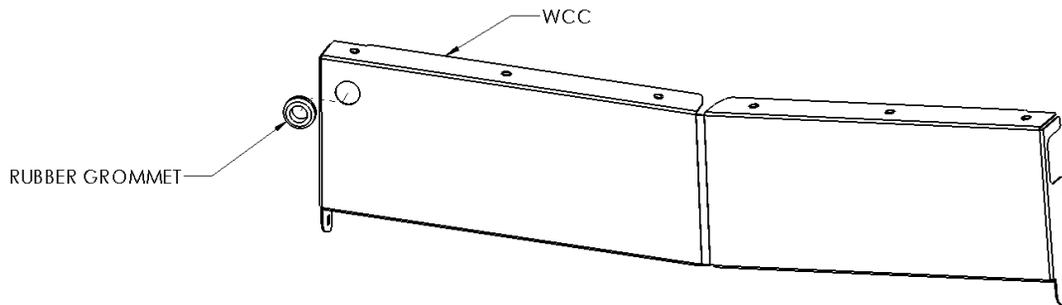

FIGURE 5 – Center Wire Cover, grommet installation
- a. Score edges and remove plastic from all edges except for the main face. Repeat for all (3) wire covers (center, driver, and passenger).
- b. Install grommet in the hole in Center Wire Cover (See FIGURE 5)